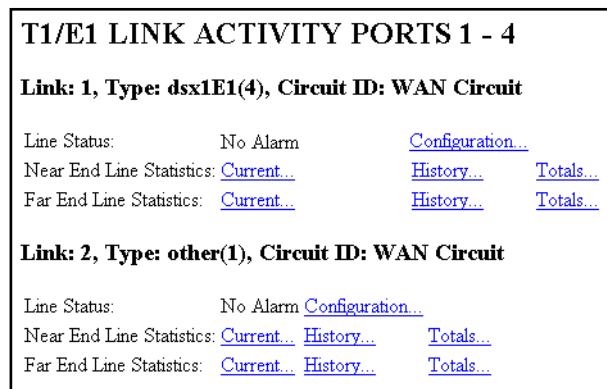

Figure 43. T1/E1 Link Activity Ports 1 – 4 page.
2. View Link 1 corresponds to the first WAN circuit on the T-DAC. To the right of View Links 1-4 click the View Links... hyperlink to open the T1/E1 LINK ACTIVITY PORTS 1 – 4 page (figure 43).